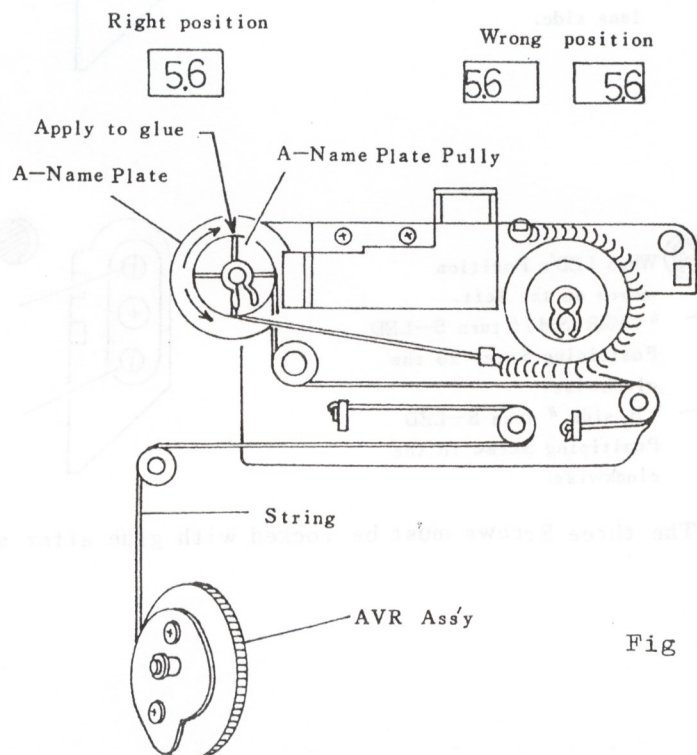

Fig 36
(1) Aperture Display Adjustment.
- Then confirming adjustment through finder, turn A-Name Plate Pulley and accomplish adjustment of aperture display. (See Fig 36)